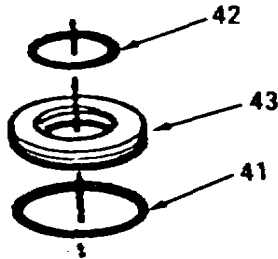

Figure 6-44.
- 20. Remove preformed packings (41 and 42) from retainer (43, Figure 6-44). Discard preformed packings (41 and 42).
- 2. Install new preformed packings (42 and 41) onto retainer (43, Figure 6-44).